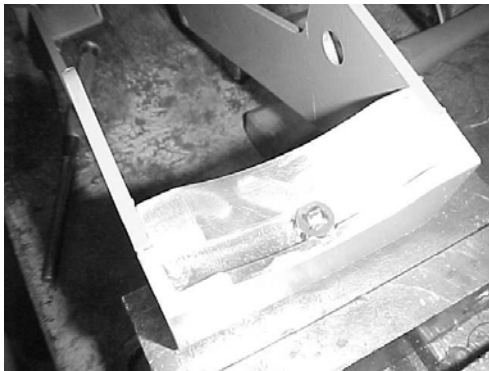
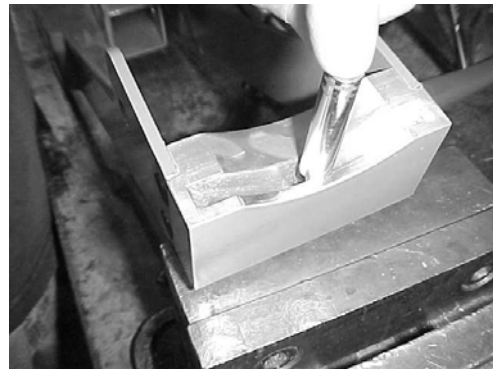

Figure 9
Figure 10
3. Place lockwasher on thumbscrew (See Figure 9), use a 5/16" socket to push lockwasher onto the thumbscrew (See Figure 10). Thumbscrew needs to be pushed till it is resting on the inside lip of the fork.